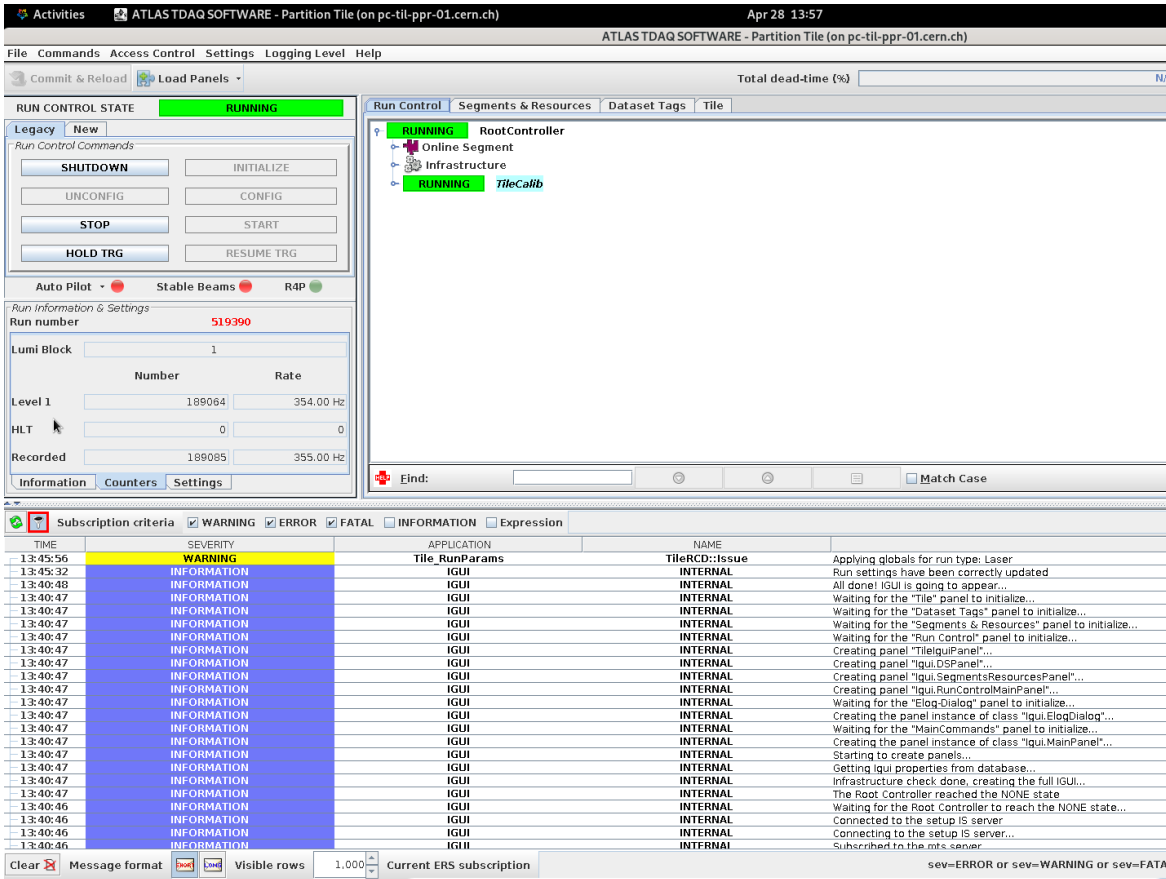

Figure 11: ATLAS TDAQ Partition Control Panel
- Control of the Tile Standalone Partition was achieved through the ATLAS TDAQ Control Panel as shown in Figure 11.